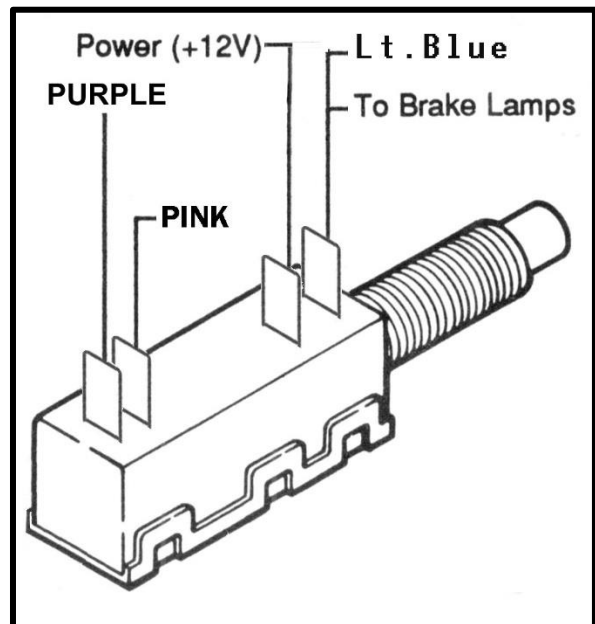

FIGURE 6.3 Brake Switch Connection (B)
- G. If your vehicle has a pressure type brake switch, you may use a relay as shown in **Figure 6.3**. The relay must be a **SPDT Relay** and wired correctly or it could result in a dangerous situation with the vehicle. The torque **converter may not unlock**.